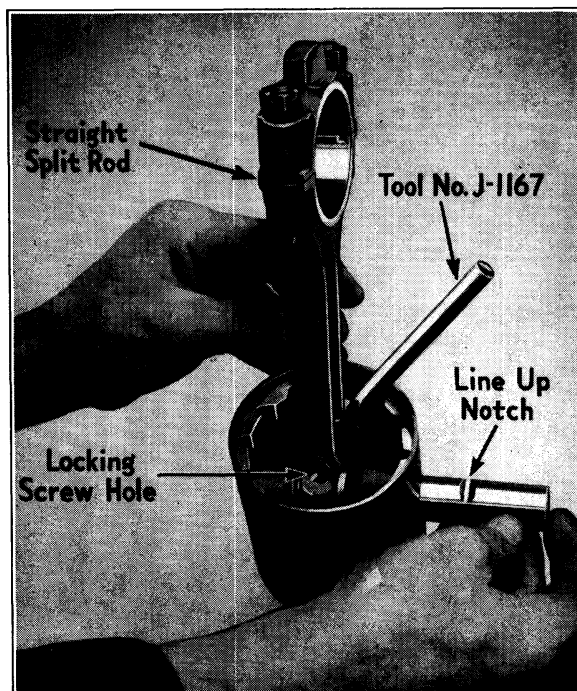

Fig. 23. Installation of Piston Pin
2. Assemble pin in piston and rod in correct position, lining up notch in pin with locking screw hole in rod, as shown in Figure 23.